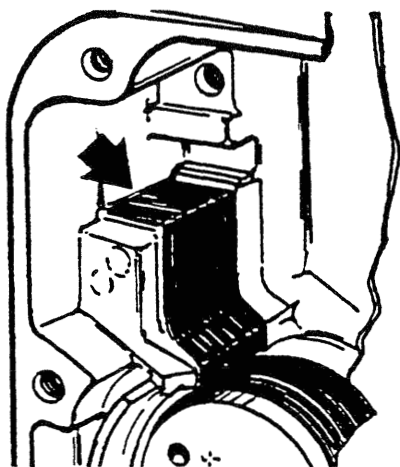
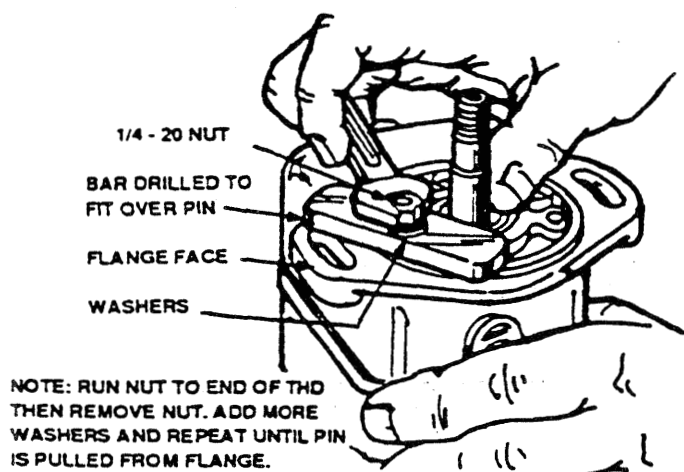

Figure 718. Wear in Coil Seat Area
Figure 719. Pulling the Impulse Coupling Stop Pins
- B. Inspect coil seat areas in magneto housing (50) for wear. See Figure 718. If a ridge can be felt when fingernail is drawn across coil seating surface at top of pole shoe laminations, replace housing.
- D. Inspect cover (15) for cracks, stripped threads or other damage. Replace damaged covers.
- E. Inspect impulse coupling stop pin (50). If stop pin is bent or damaged, or shows signs of wear, remove and replace as follows:
- (1) Remove pin (60) using a steel bar, 1/4-20 nut and a few plain washers as shown in Figure 719. The bar should be about 1 X 3 X 1/4 inch with a hole drilled in its center big enough to fit over the stop pin. Make careful note of which hole pin was removed from.
- (2) Place housing (50) on a wood block and press new stop pin (60) into position using an arbor press. The dimension from top surface of pin to face of mounting flange shall be .688 + .016 - .000 inch for all types except housing (50) P/N 10-81942 used with S6RN and S6LN-25 magnetos, in which case the dimension shall be .500 + .016 - .000 inch.
- (3) If new pin is loose in housing, housing must be replaced.